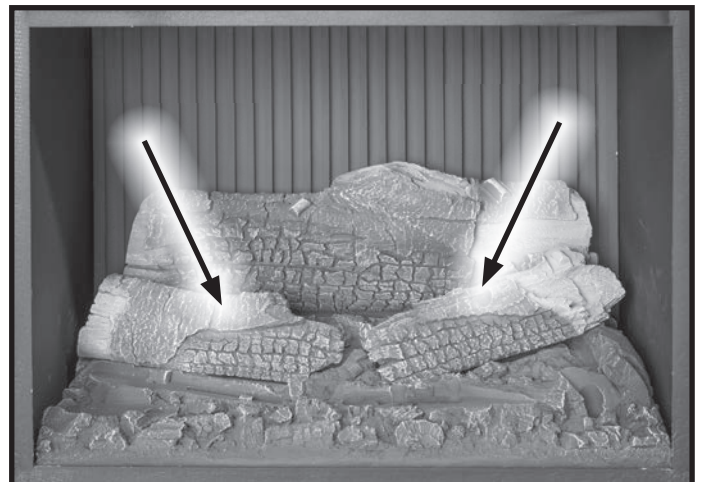

Figure 46. Rear Ember Bed Logs.
4. Next, Install the two large flat bottommed logs in the middle of the ember bed as shown in Figure 46.